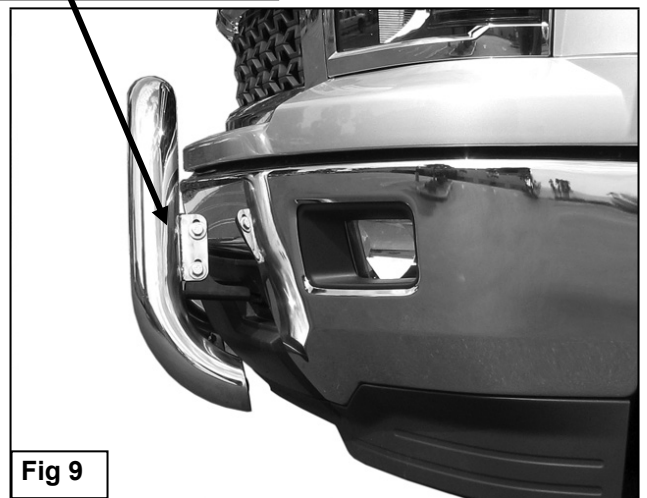

Fig 9
7. With assistance, hold the Bull Bar up in position on the outside of the Mounting Brackets. Bolt the Bull Bar to the Brackets with (4) 10mm x 30mm Hex Bolts, (8) 10mm Flat Washers and (4) 10mm Nylon Lock Nuts, **(Figure 9)**. Do not tighten hardware at this time.